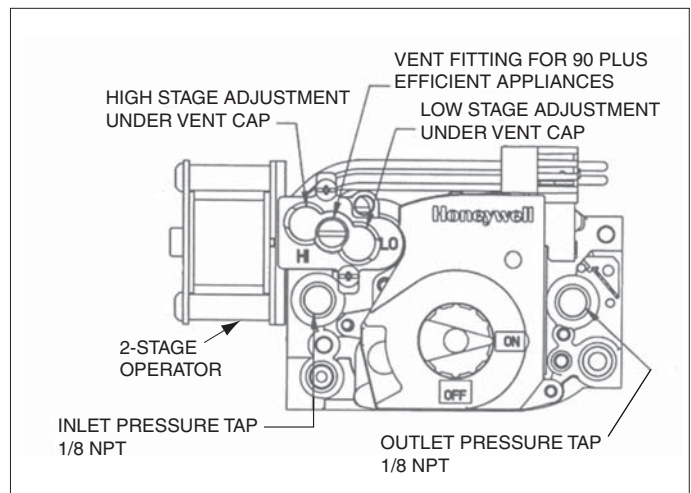

Figure 4. Top View of VR8205Q
2. With a 3/16 inch Allen wrench, remove the manifold pressure tap plug located on the OUTLET side of the gas valve. Refer to Figure 4 for more details.
6. Allow the furnace to operate for three (3) minutes and then check the manifold pressure.